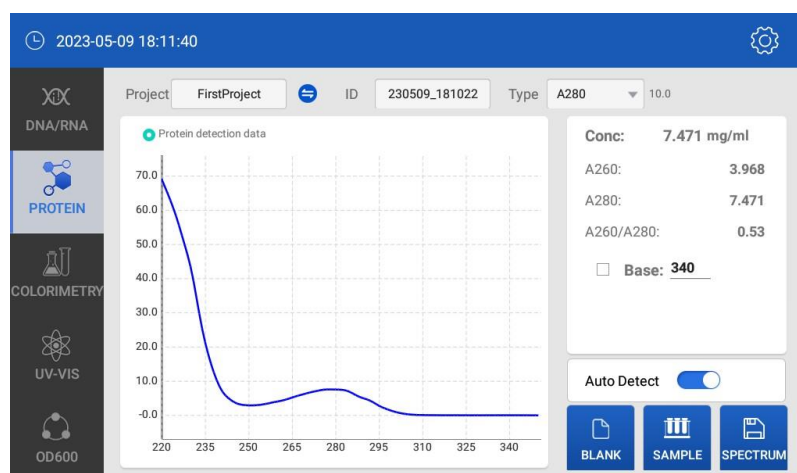
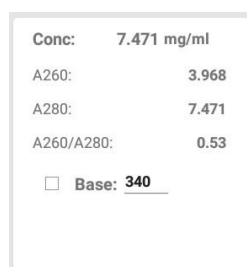

Fig 4.9 Protein detection result
Fig 4.10 Protein result
NB-12-5002 can detect the BSA concentration 90mg/ml without dilute under pedestal mode. When the light intensity is less than 200 (10mm wave length) after detection, the system will reminder user to shift to a shorter wave length to ensure the accuracy. It will show as below Fig 4.9 The liquid surface tension depends on the hydrogen bond of H₂O, usually, the stuffs in Water such as protein, saline ions, detergent which will destroy the hydrogen bond to reduce the surface tension. For most samples, 1 ul sample is enough for detection, 2 ul volume is recommended to form the liquid column due to the surface intension reduce.
(1)As showed Fig 4.9, blue-ground-colored buttons are active, white-ground-colored buttons are inactive.
- ①  : Project name, make a proper name according to users' need.
- ②  : ID No., default name is the current time, users also can make a new ID name according to need. Each ID can save 1000 data.
- ③  : Click to choose protein type, when users choose “other”, users can input the value according to need. Instrument will calculate the result.
- ④  : Blank before detection by TE buffer, the buffer Abs should be -0.02~0.02 Abs. In case that the user does not detect more than 30 min after blank, instrument requires another blank.
- ⑤  : users can choose or cancel baseline calibration. Protein detection Baseline default is 340nm, users can input a wavelength according to experiment with different wave length. Commonly, users can input other wave length for baseline. Usually, the baseline wavelength is not sensitive to the target sample. All the wavelength Abs should minus the baseline wavelength Abs.
- ⑥  : Under condition of this function on, instrument can detect automatically once upper pedestal put down.
(2) Operation steps:
- ① Set the project name and sample No.:
- ② Blank with TE buffer: add 2ul TE buffer on the lower pedestal, lay down the upper pedestal and start to “Blank”.
- ③ Clean the pedestals by a dust free cloth after blank.
- ④ Add 2ul sample onto the lower pedestal, lay down the upper pedestal, and press the “sample” button to measure. See Fig 4.10
(3) As Fig 4.10 (From Fig 4.9), the data result as below
① Set the project name and sample No., colorimetry type, and curve,
② Blank with TE buffer: add 2ul TE buffer on the lower pedestal, lay down the upper pedestal and start to “Blank”.
③ Clean the pedestals by a dust free cloth after blank.
④ Add 2ul sample onto the lower pedestal, lay down the upper pedestal, and press the “sample” button to measure. See Fig 4.10
(2) Operation steps :
- ② Blank with TE buffer: add 2ul TE buffer on the lower pedestal, lay down the upper pedestal and start to "Blank".
- ④ Add 2ul sample onto the lower pedestal, lay down the upper pedestal, and press the "sample" button to measure. See Fig 4.10
- ⑤ Clean the sample away from by dust free cloth, before next measurement.